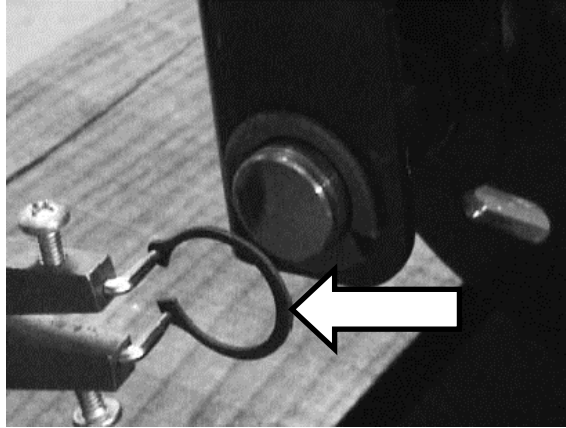

Figure 6. Lower Knuckle Link Arm Snap Ring, Bottom
6. Refer to **Figure 6**. Locate Lower Knuckle Link Arm Snap Ring near the bottom of the vertical arm then remove and retain Snap Ring for re-installation.
10. Re-install snap ring onto lower knuckle link arm as shown in **Figure 6**.